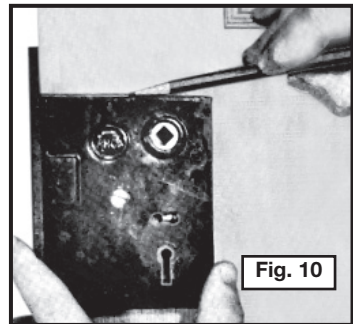

Fig. 10
3. Make a mark on the side of the door at the top of the lock box (Fig. 10). Transfer this mark to the front edge of the door.